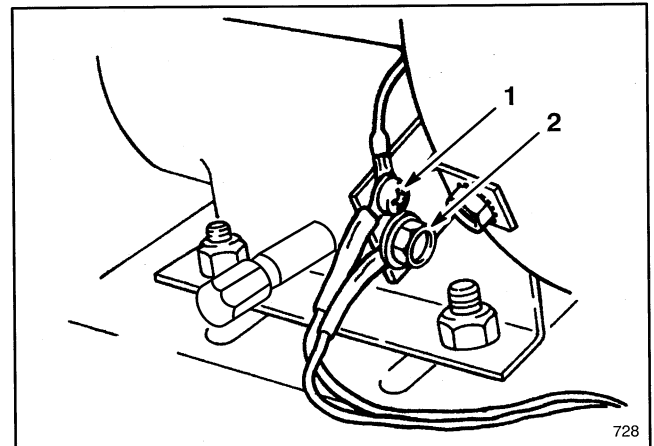

Figure 3
1. Remove Phillips head screw from engine bracket, install wire with smaller connector and reassemble to engine bracket (Fig. 3).
2. Insert flange head capscrew through large connector on remaining wire and install in lower hole in engine bracket (Fig. 3).